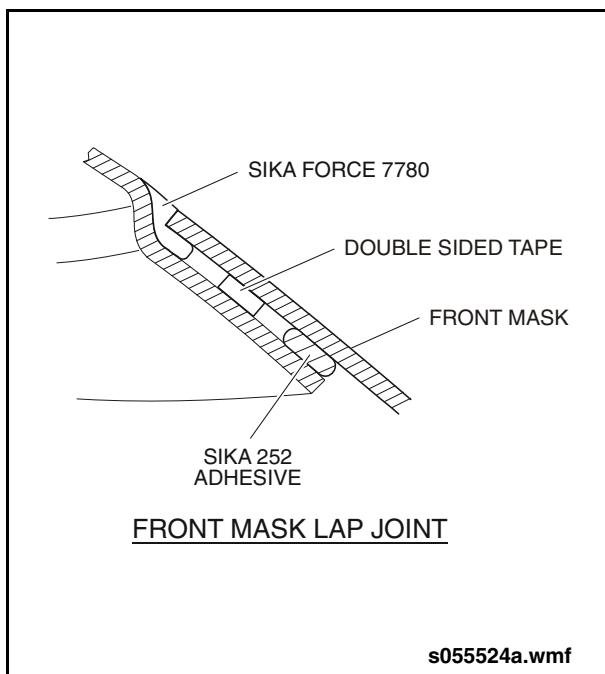

Fig. 13-5: Front Mask Lap Joint
14. Apply Sikaforce-7780 along the top edge of the front mask to create a flush seal. See "Fig. 13-5: Front Mask Lap Joint" on page 20.